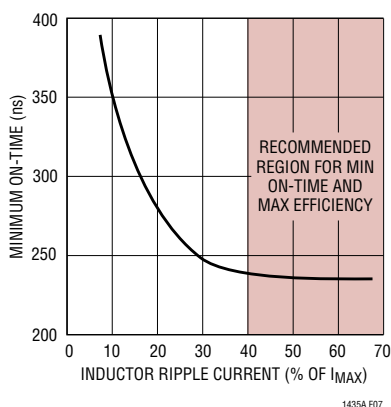

Figure 7. Minimum On-Time vs Inductor Ripple Current
The minimum on-time for the LTC1435A in a properly configured application is less than 300ns but increases at low ripple current amplitudes (see Figure 7). If an application is expected to operate close to the minimum on-time limit, an inductor value must be chosen that is low enough to provide sufficient ripple amplitude to meet the minimum on-time requirement. To determine the proper value, use the following procedure:
2. Use Figure 7 to obtain the peak-to-peak inductor ripple current as a percentage of I_{MAX} necessary to achieve the calculated $t_{ON(MIN)}$.
3. Ripple amplitude $\Delta I_{L(MIN)} = (\% \text{ from Figure 7})(I_{MAX})$ where $I_{MAX} = 0.1/R_{SENSE}$.
The ΔI_L was previously calculated to be 1.3A, which is 43% of I_{MAX} . From Figure 7, the LTC1435A minimum on-time at 43% ripple is about 235ns. Therefore, the minimum on-time is sufficient and no cycle skipping will occur.